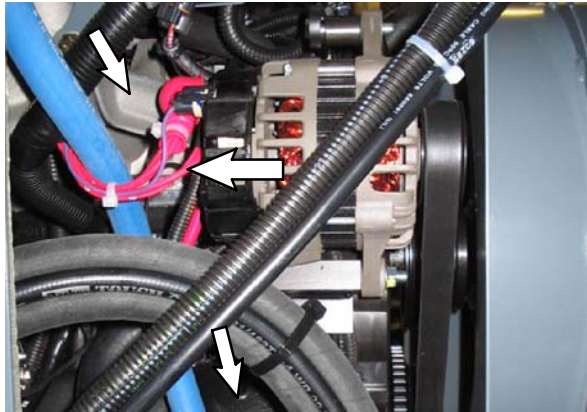

FIG. 3
15. Route the 24" hose (5) down through the wires connected to the alternator, along the engine, and down to the lower coolant tube. Refer to Fig. 3.